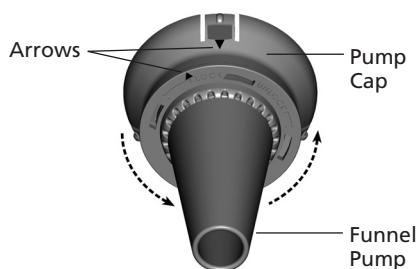

*Figure 15*
- Place the Atomizer in the Upper Reservoir, aligning the three oval holes in the Atomizer with the three prongs in the Upper Reservoir. The side of the Atomizer with three short posts should be facing upward. See Figure 15.